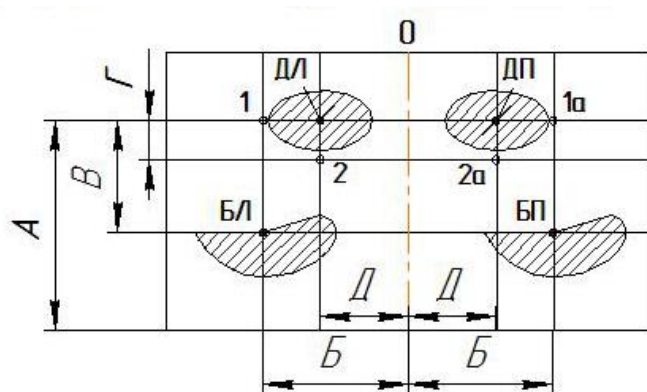

Fig. 28 Diagram of screen marking for headlamp adjustment
Mark the screen to adjust the position of headlight spots according to Fig.28. Align the position of vertical axis O on the screen (it shall be in the longitudinal axis of the tractor symmetry). In accordance with recommendations set forth in GOST R 41.48-2004 (item 6.26.1.2), select the value of B=125 mm for 5 m distance to the screen.